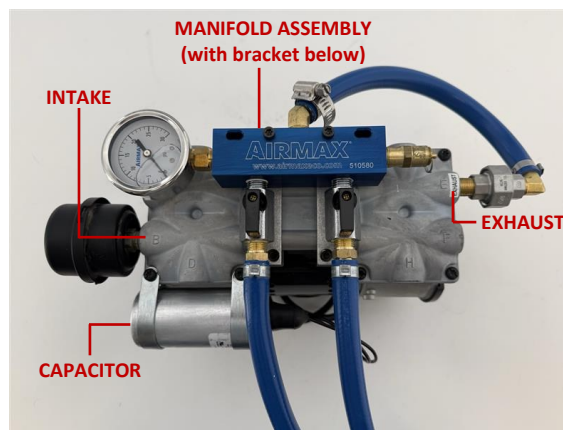
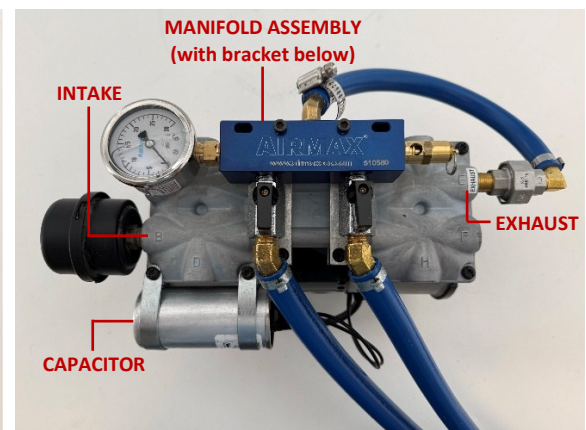

**FIGURE 1**
**FIGURE 2**
- To install the mounting bracket, slip the H-Base (**Fig 1**) under the valve plate, then secure each top bracket using the FOUR 1" (T50 & T75 models) or FOUR 1 1/4" (T100 models) Allen head screws provided, making sure to tighten in an alternating pattern so that the bracket sits evenly (**47-50 in lbs**). The top brackets will not seat on the H-Base when fully secured (**Fig 2**). The furthest outside holes are for securing the manifold assembly using the TWO 1 3/4" screws provided (**47-50 in lbs**).